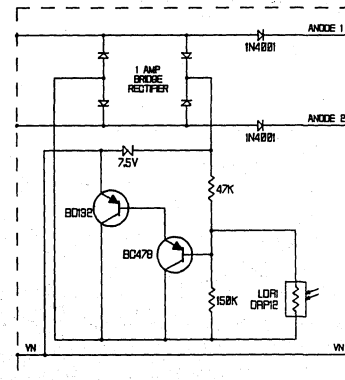

Fig.13 AUTOMATIC BRIGHTNESS CONTROL
4. Automatic brightness control Fig.13